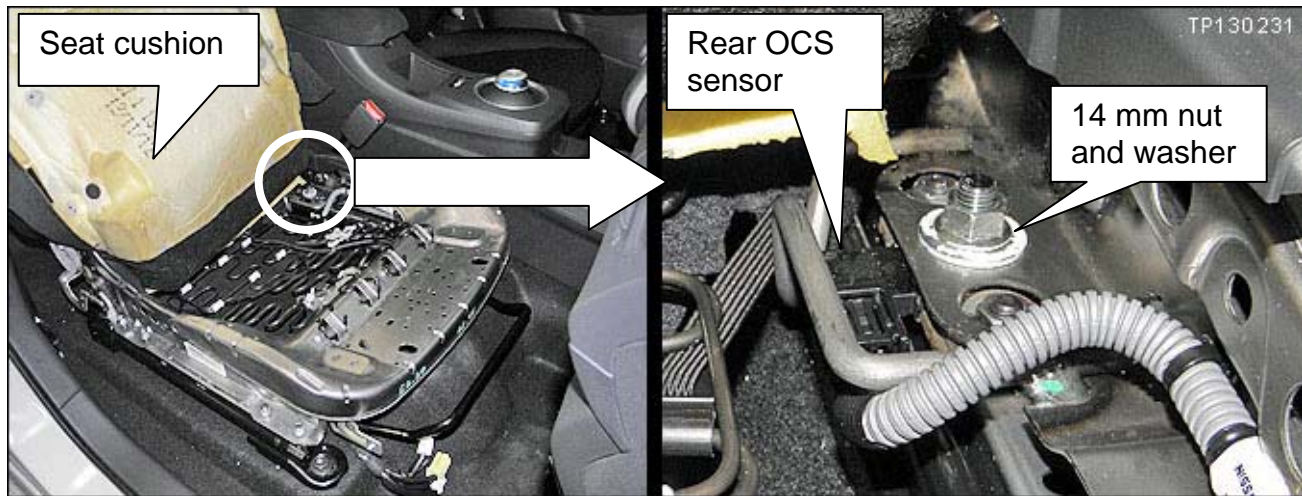

Figure 13
18. Disconnect the rear OCS sensor electrical connector (see Figure 13).
19. Remove the 14 mm nut and washer on the rear of the inboard seat-track (see Figure 13).